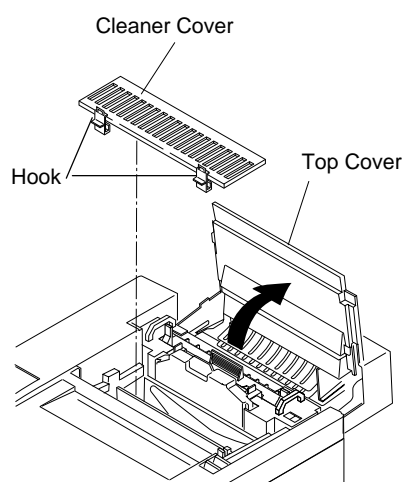

Fig.6-24
- 1) Remove the cleaner cover by releasing the two hooks.(Fig.6-24)